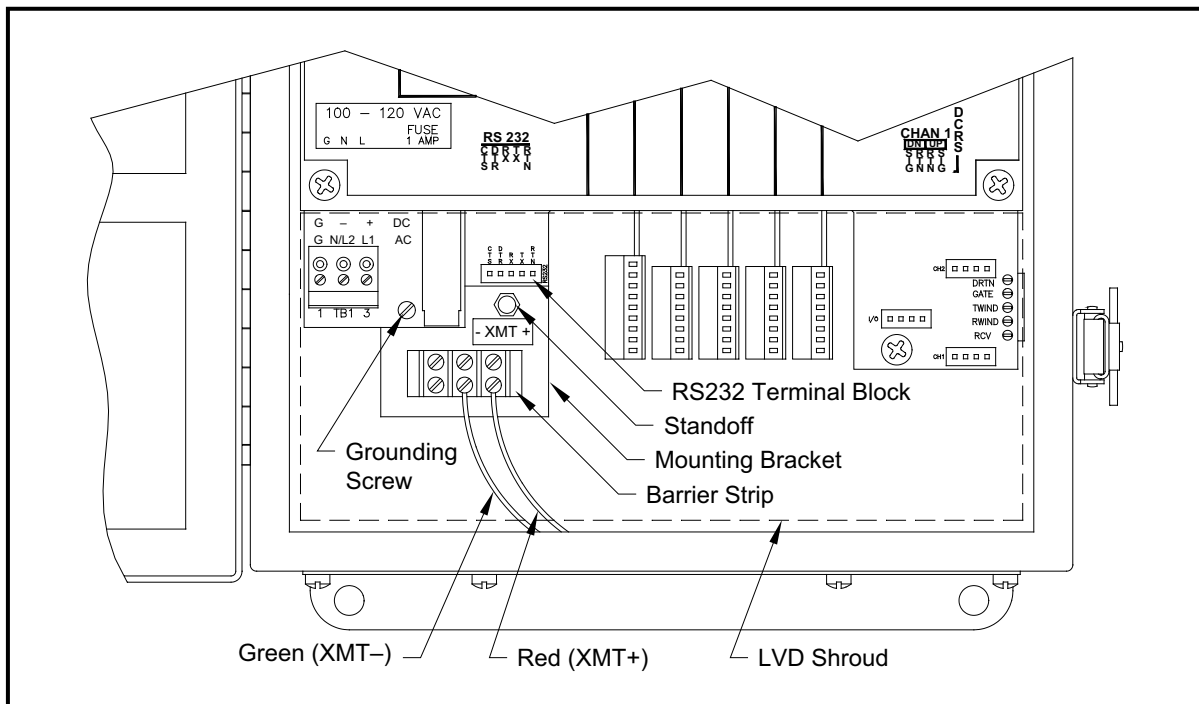

Figure 9: Interface Converter Mounting
A special bracket containing the serial interface converter and a three-terminal barrier strip is mounted inside the Model GS868, just below the RS232 terminal block (see Figure 9 below). The standard **RS232** terminal block is wired to the input of the serial interface converter, and the RS485 output of the serial interface converter is wired to the barrier strip.
Standard factory wiring of the RS485 serial interface is configured for point-to-point wiring. That is, a single Model GS868 may be wired directly to a single personal computer. To connect the RS485 serial interface, refer to Figure 9 on page 73 and complete the following steps:
3. Remove the serial interface converter *mounting bracket* by removing the standoff located just below the **RS232** terminal block and the grounding screw to its left (see to Figure 9 on page 73).